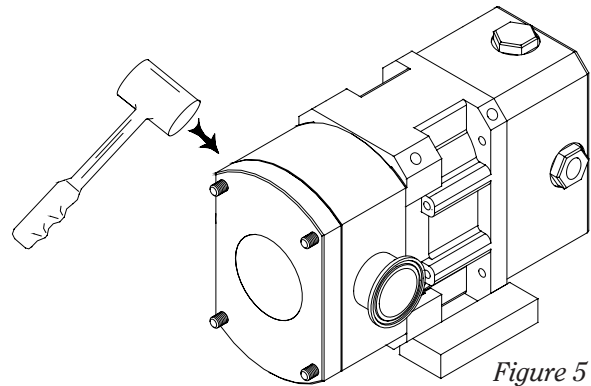
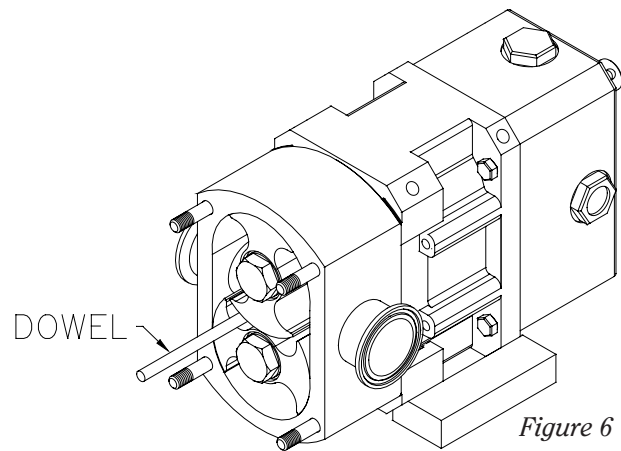

Figure 5
Figure 6
- a) Loosen and remove the four cover dome nuts (6) from the cover.
- b) Next remove the cover (7). If it is stuck, tap on the cover with a soft-faced hammer (*Figure 5*).
- c) Remove the cover o-ring (8).
- d) To remove the rotors, first loosen the first rotor, place the wooden dowel between the rotors as shown in *Figure 6*.
- e) Turn the first rotor nut (4) counter-clockwise.
- f) Remove the rotor nut and o-ring (5).
- i) The rotors (11) and rotor o-rings (12) can now be removed from the pump housing (10) by pulling straight. Handle the rotors with care to avoid damage. While removing the rotors watch for the stamped markings. There should be one dot on the rotor for the drive shaft and two dots on the rotor for the idle shaft.